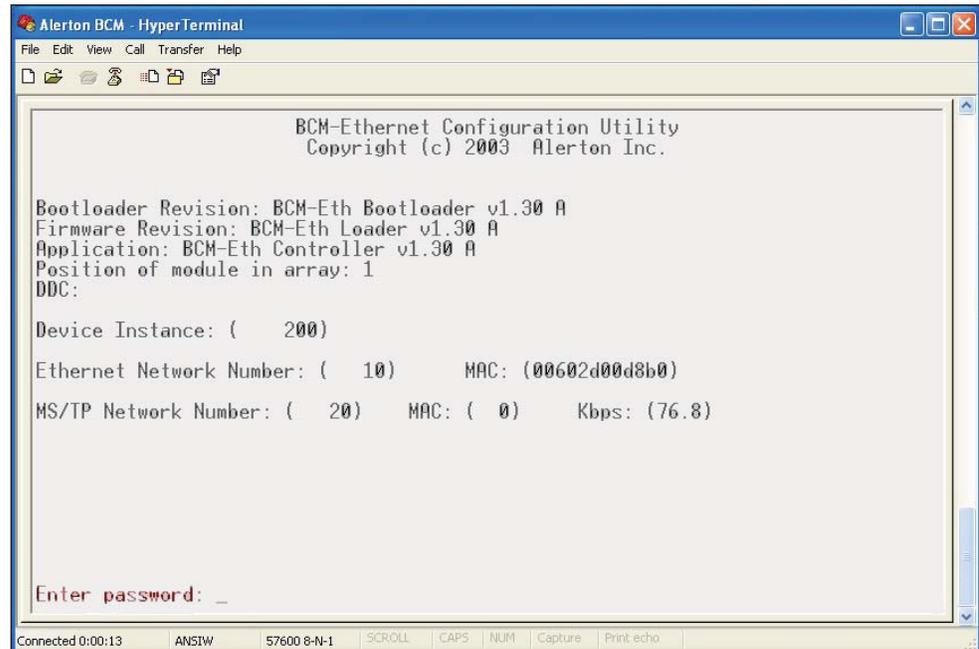

Figure 6: Established connection to a BCM-ETH.
3. Once the settings have been entered, select 'OK' and press enter. A window similar to the window shown in Figure 6 should appear.